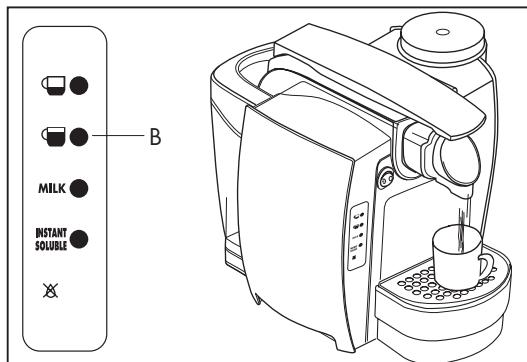

Fig.7
- Press the rinse button (B) **(Fig.7)** and wait until the delivery is complete.
To properly prepare an espresso, place the grid (3) at its highest position **(Fig. 7)**